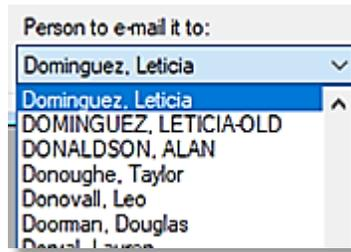

Figure 20. Additional report recipients
8. Reports will be emailed only to the person specified here. (Figure 20)